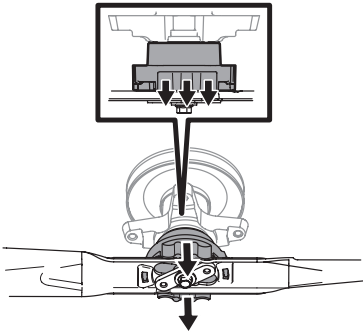

Fig. 54
- There will be an audible click when the blade is properly locked in place (Fig. 54).